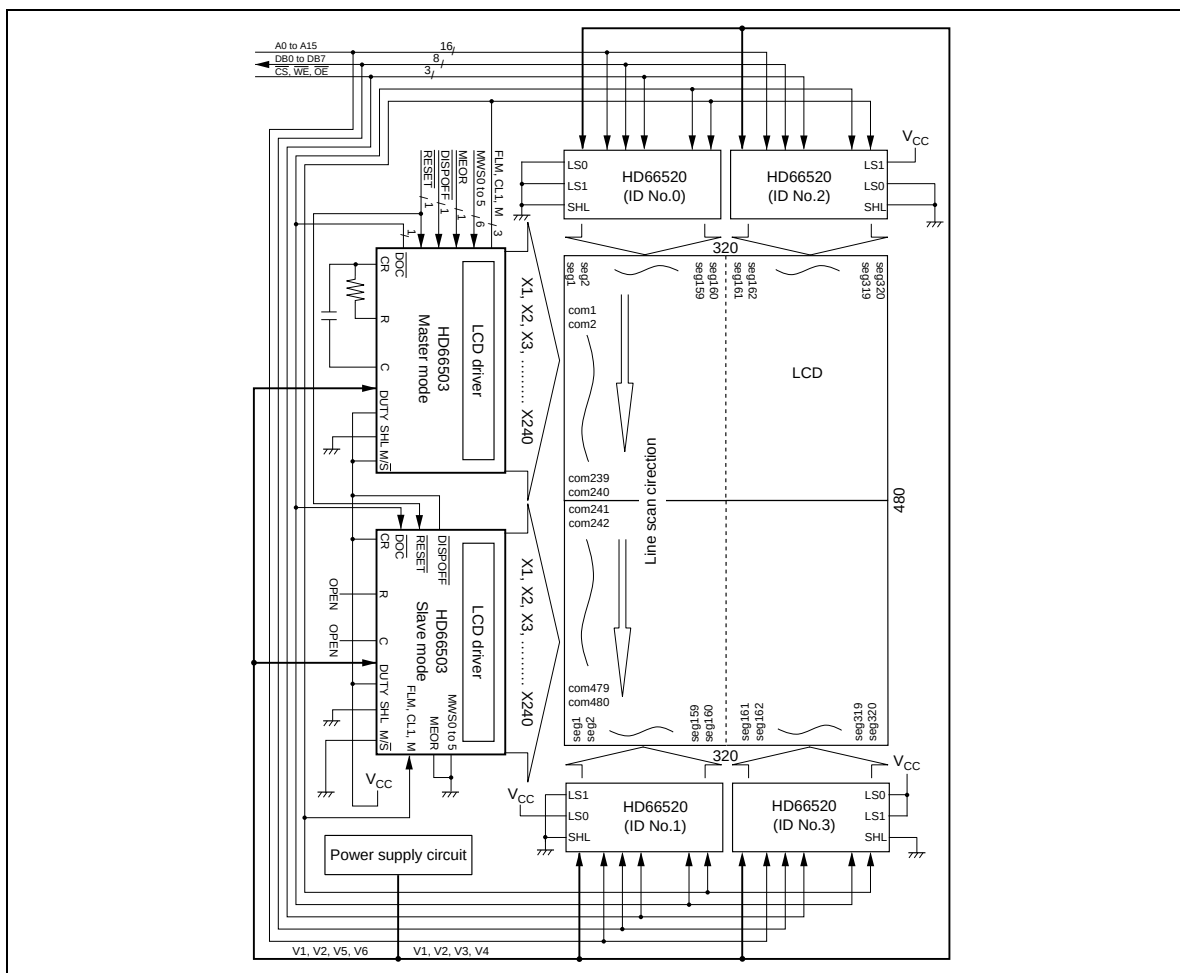

Figure 14 System Configuration (3)
Figure 14 shows a system configuration for a 320×480 -dot LCD panel using segment driver HD66520 with internal bit-map RAM. Refer to Timing Chart (2) for details.